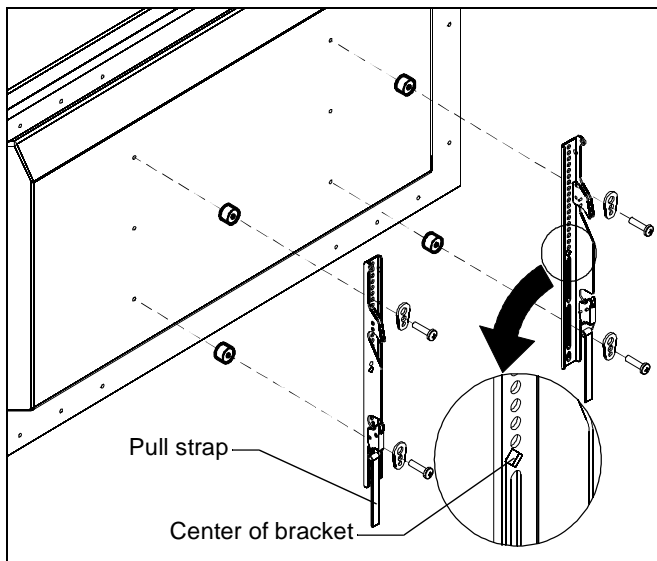

Figure 5
1. Align the center of the bracket with center of screen. (See Figure 5)
2. Select correct screws, spacers (if necessary) and washers from the hardware bag (A-N) and attach brackets to back of screen. (See Figure 5)